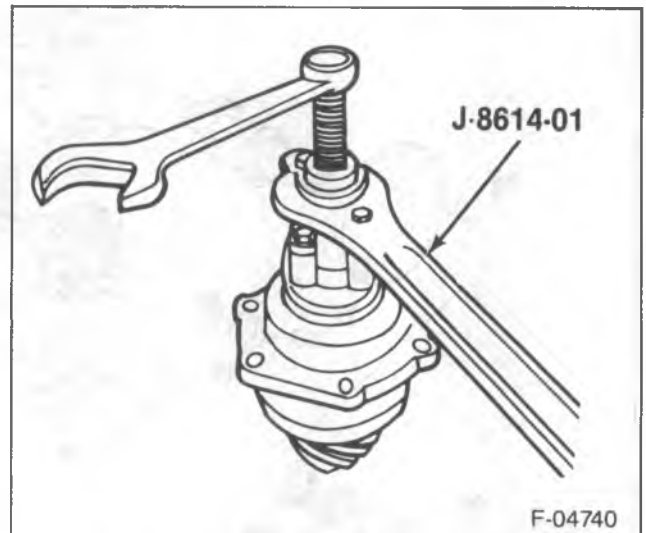
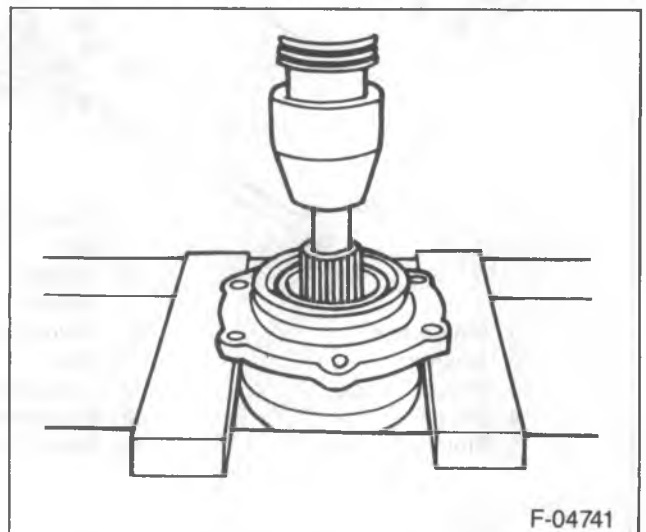
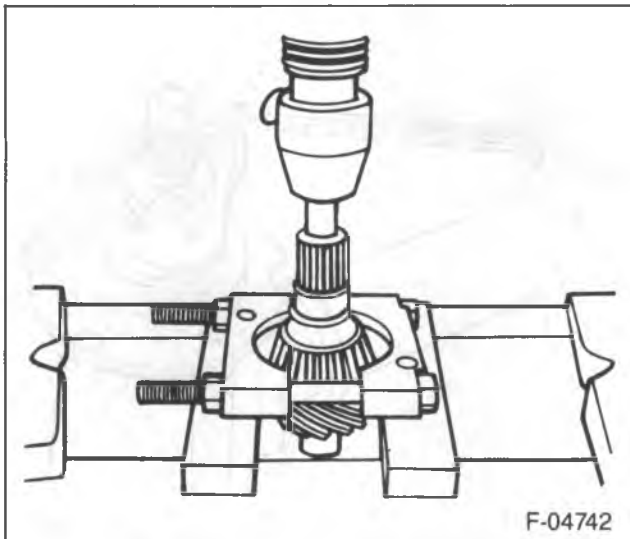

Figure 6—Removing the Pinion Flange
Figure 7—Pressing the Drive Pinion from the Cage
Figure 8—Removing the Pinion Inner Bearing
- Pinion flange using J 8614-01 (figure 6).
- Pinion (14) from the pinion cage (10).
- Place the cage into an arbor press as shown in figure 7 and press the pinion from the cage. Do not let the pinion fall to the floor.
- Collapsible spacer (12) from the pinion.
- Inner bearing (13) from the pinion (14).
- Press the bearing from the pinion using J 22912-01 (figure 8).
- Pinion seal (5) from the pinion cage.
- Front bearing (6) from the cage.